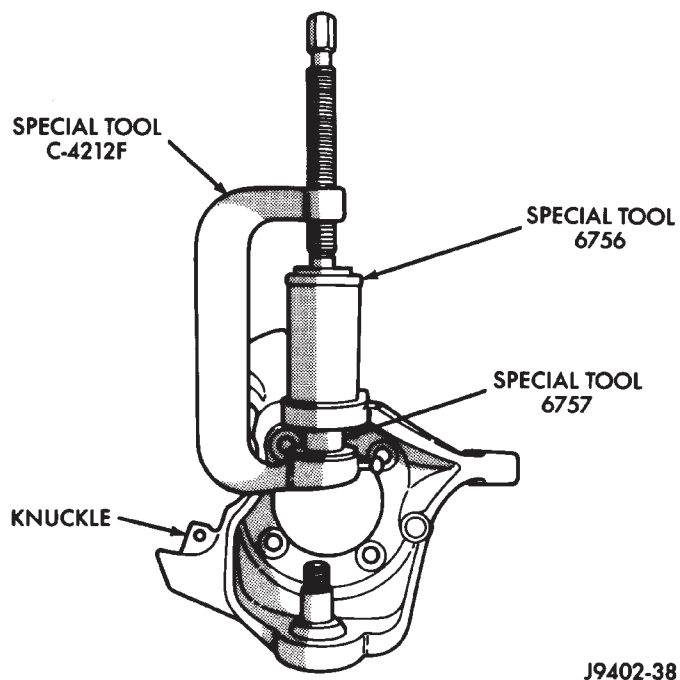

Fig. 25 Upper Ball Stud Remove
(1) Position tools as shown to remove upper ball stud (Fig. 25).